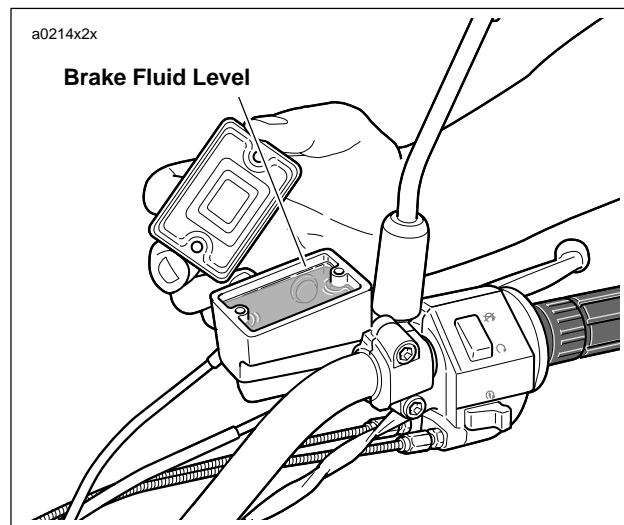

Figure 2-33. Brake Fluid Level
6. See Figure 2-33. With the master cylinder in a level position, add **D.O.T. 4 BRAKE FLUID**. Bring fluid level to within 0.125 in. (3.2 mm) of molded boss inside front master cylinder reservoir.